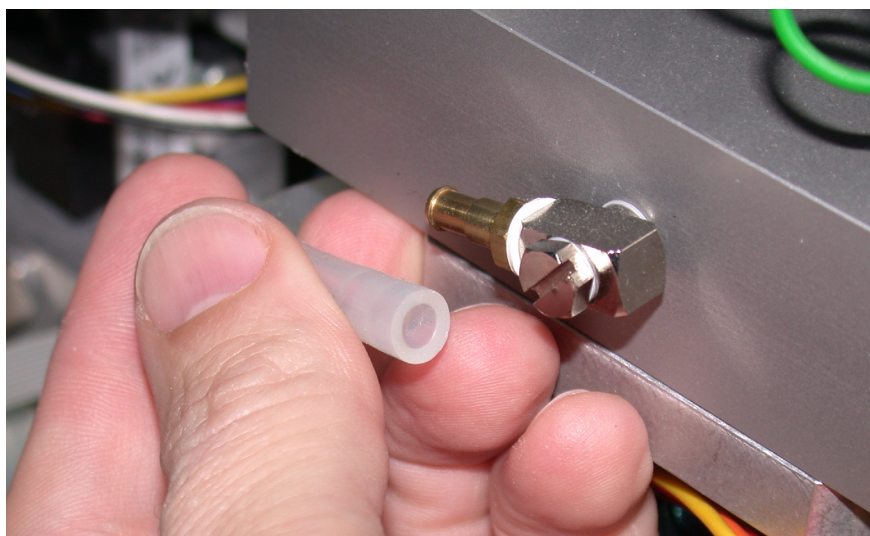

Figure 9-11. The tubing disconnected from the mixer block
2. Disconnect the tubing from the *mixer* block. (Figure 9-11.)